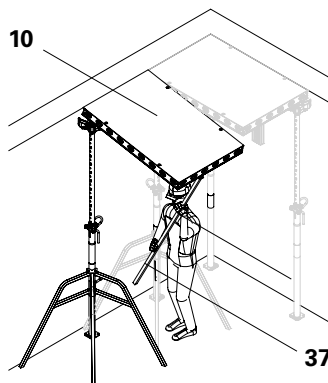

Fig. D2.06
1. Erect the other DP panels (10) in the same way. (Fig. D2.06)